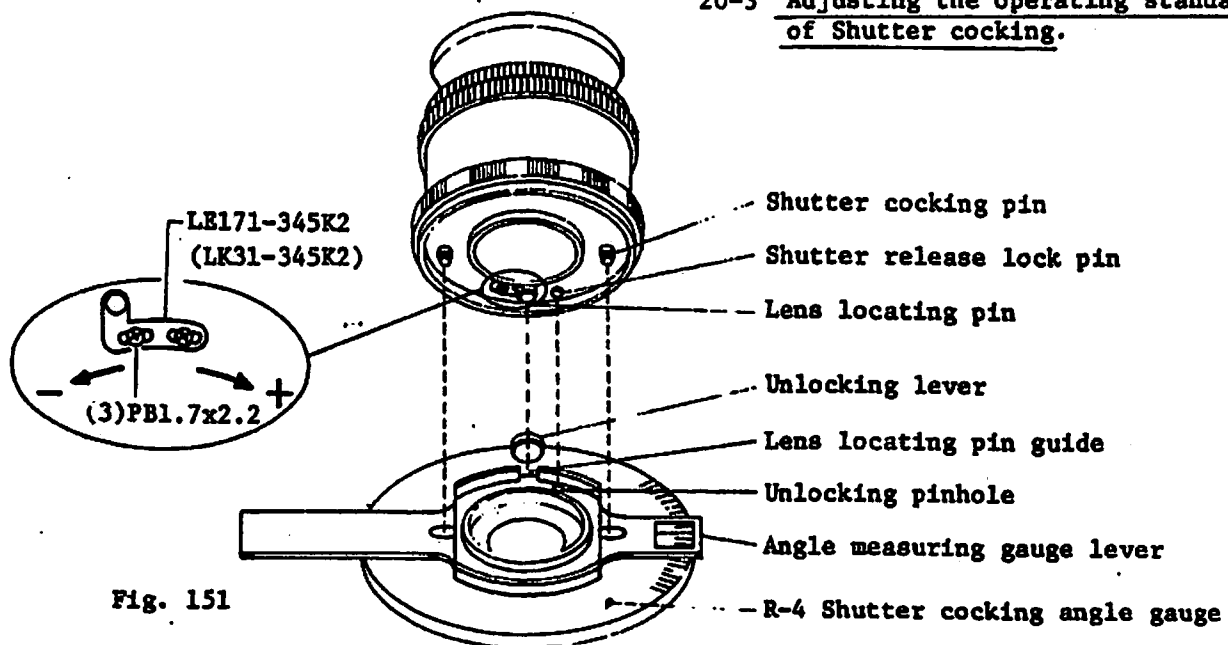

Fig. 151
and the lens locating pin are just fixed. (Fig. 151.)
In order to rectify the error during the checking process, its adjustment needs loosening the screw (3)PB1.7x2.2 of the lens locating pin (LE171-345K2) as shown in Fig. 151.